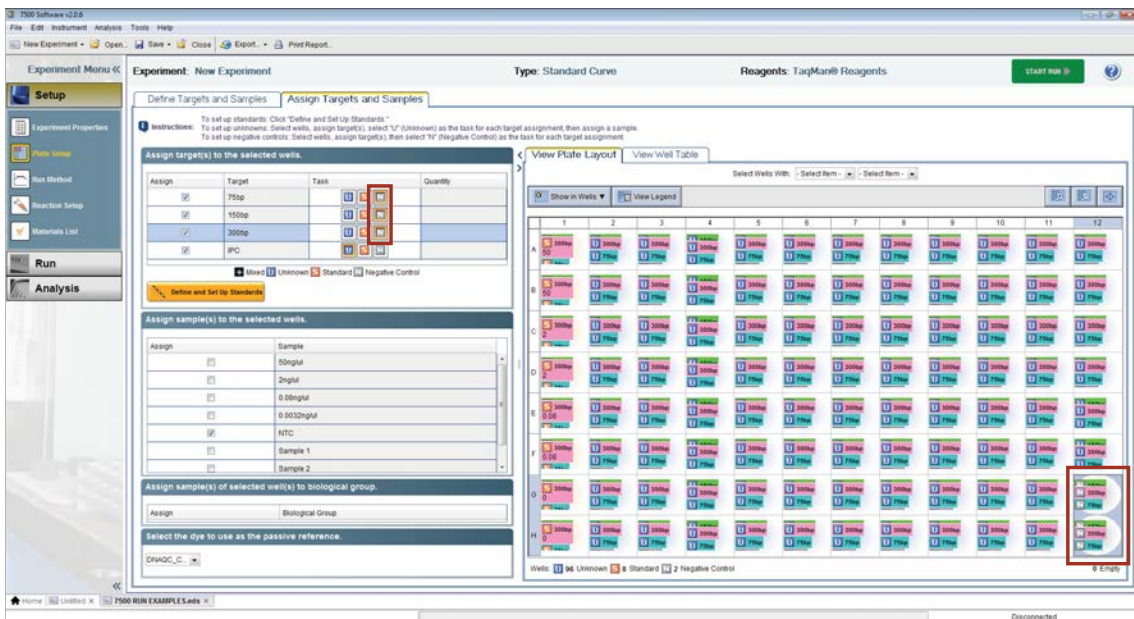

Figure 5. Assigning NTC Task to wells with NTC samples.
- Highlight the wells containing the NTCs on the View Plate Layout tab, and select “N” as the Task for the 75bp, 150bp and 300bp targets (Figure 5).